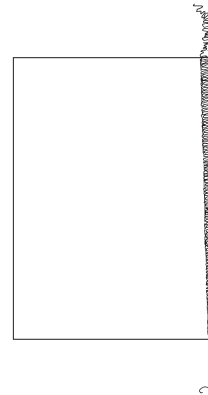

Fig. 21-7
1. Serge one edge of your project and continue off the corner. (Fig. 21-7)